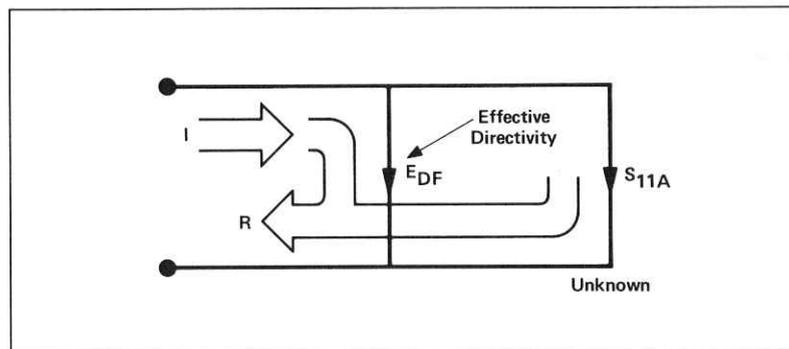

Figure A5-3
However, all of the incident signal does not always reach the unknown (see Figure A5-3). Some of (I) may appear at the measurement system input due to leakage through the test set or other signal separation device. Also, some of (I) may be reflected by imperfect adapters between signal separation and the measurement plane. The vector sum of the leakage and miscellaneous reflections is directivity, EDF. Understandably, the measurement is distorted when the directivity signal combines vectorially with the actual reflected signal from the unknown, S11A.